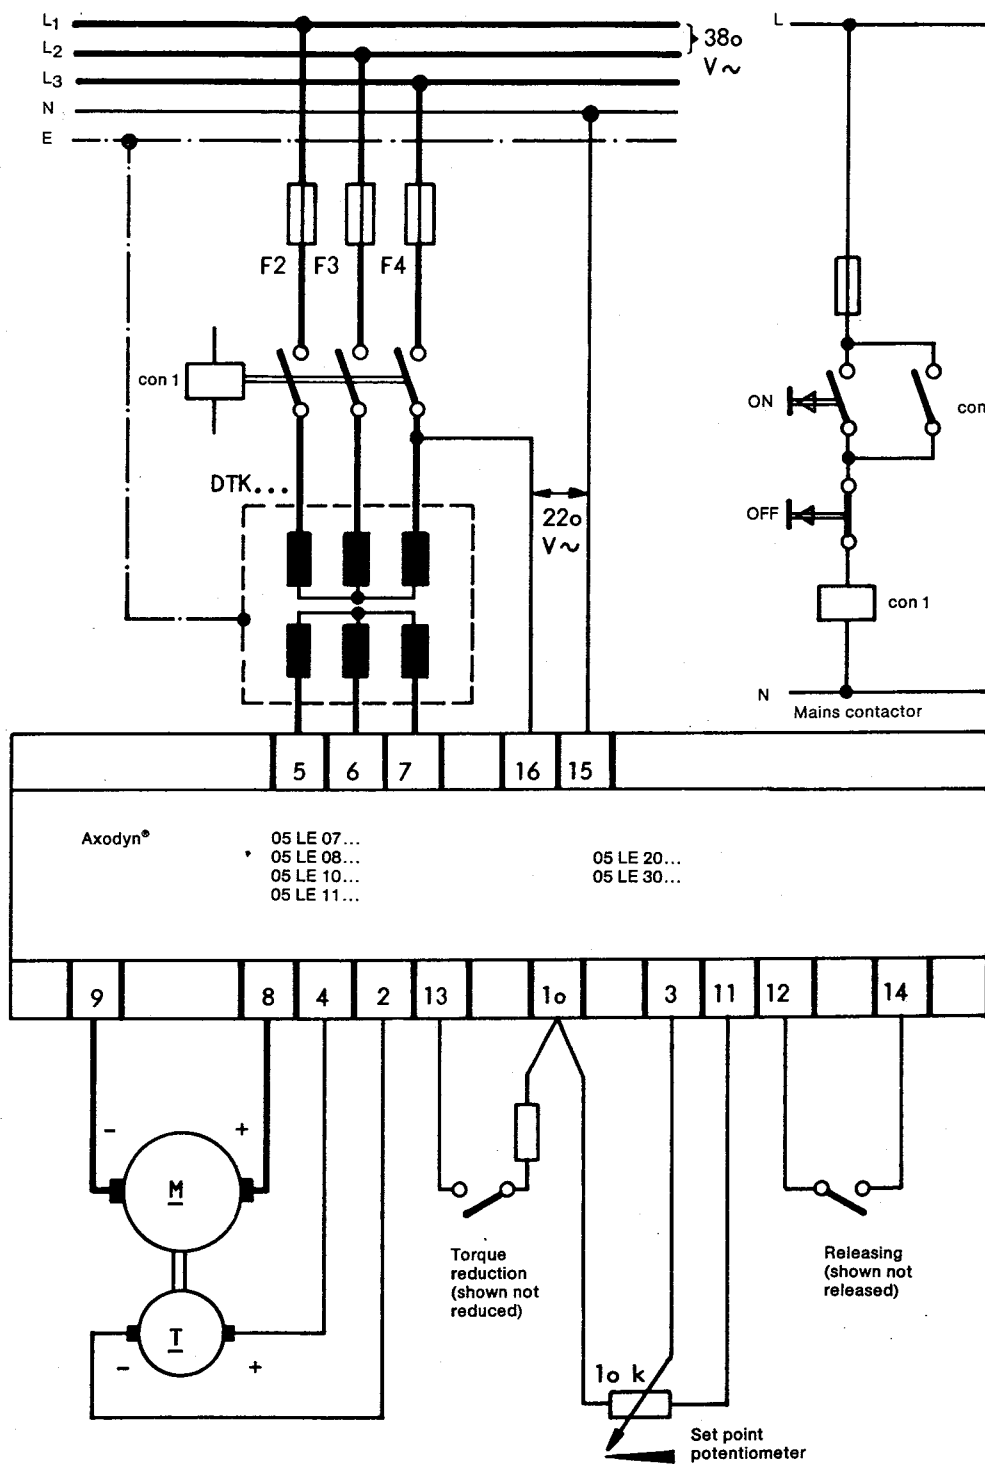

Fig. 8
Fig. 8 shows an example of connection for speed control by tachogenerator. Speed control other than tachogenerator control is described in section 5.
- Are the polarities of the motor and tachogenerator correct (see Fig. 8 and section 4.7)?
If the polarities of the motor and tachogenerator are known, they are connected according to the connection example Fig. 8.